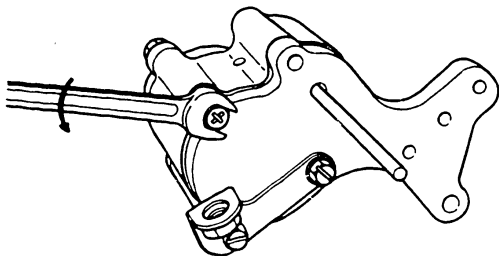

Fig. 94 Removing the bolts
43. Remove the three bolts (320/24), and then remove the spacer (320/1A), pushrod (320/6), spring (320/5) and washer (320/44) together. (Fig. 94)